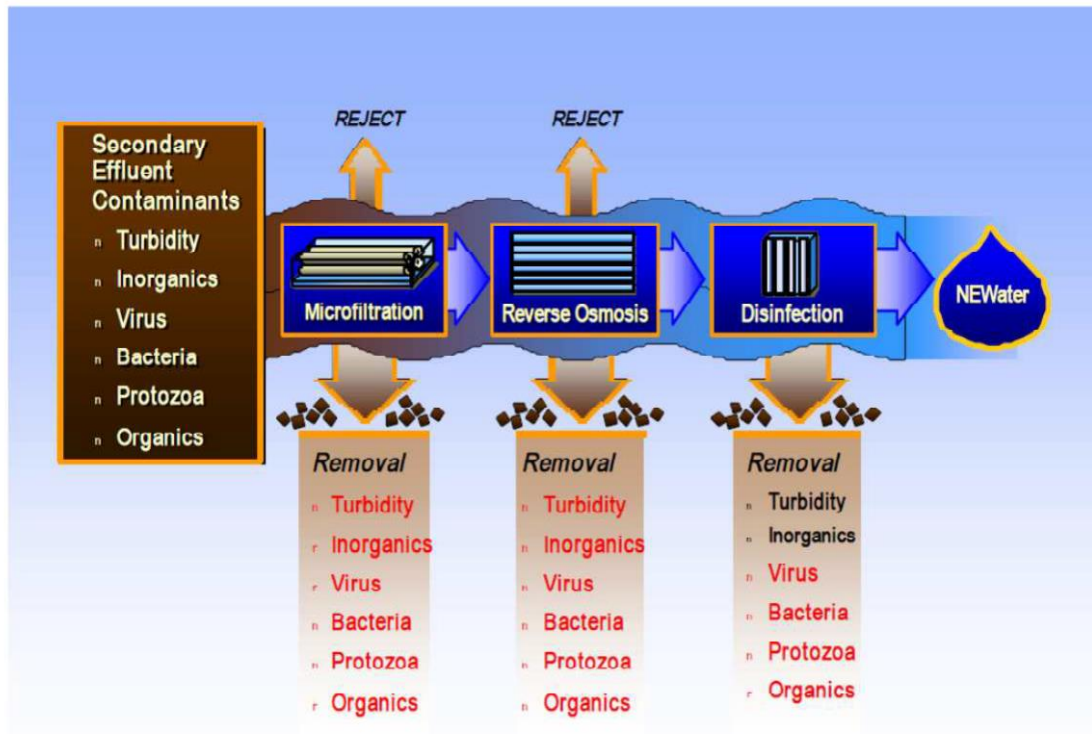

Figure 1: Multiple barrier approach for microbial and chemical contaminant removal
NEWater is produced by a multiple barrier water reclamation process. Treated effluent from the water reclamation plants (WRPs) is being further treated in NEWater factories using advanced technologies comprising micro/ultra filtration (MF/UF), reverse osmosis (RO) and ultraviolet disinfection (UV) to produce high grade water called NEWater. A typical process scheme is shown in Figure 1.